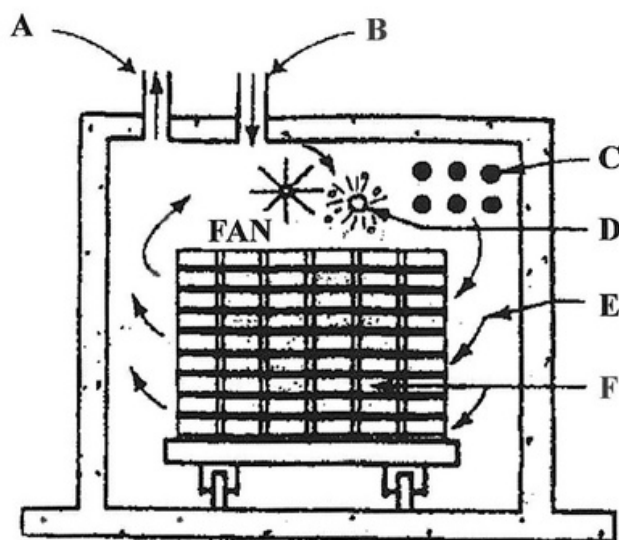

Figure 5
- (e) The diagram in **Figure 5** below shows a commonly used method of seasoning timber. [2]